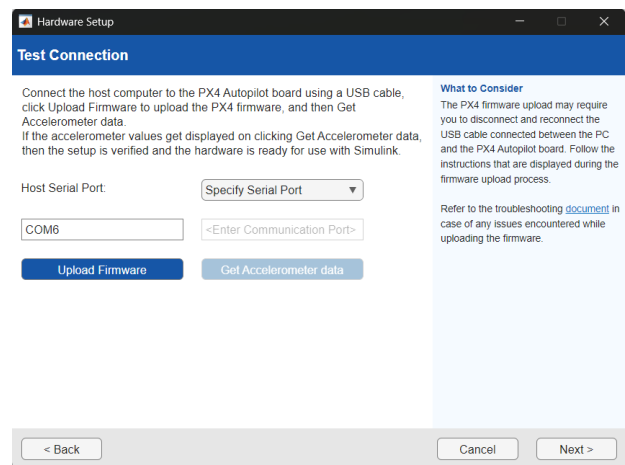

Figure B.14: Screenshot of the firmware upload window.
16. At this time, ensure the autopilot is plugged into the computer so that the Hardware Setup screens recognize the appropriate COM port of the PX4 autopilot's bootloader. Alternatively, the user may manually enter the COM port. Once the COM port has been selected, click "Upload Firmware" as shown in Figure B.14.